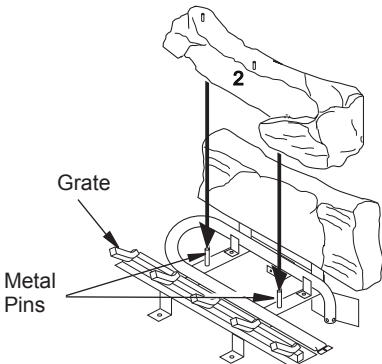

Figure 42 - Installing Log No. 2
- Rest log #2 (front log) on pins on front part of grate (see Figure 42).